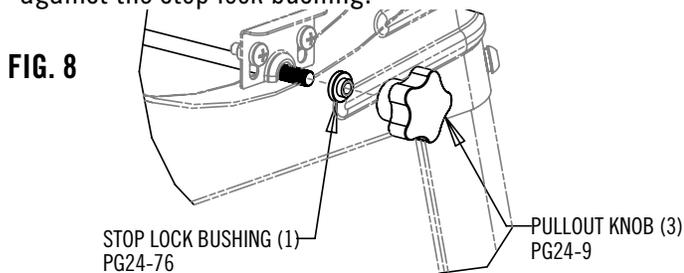

FIG. 8
3. Assemble the stop lock bushing on the burner pullout rod as shown in Fig.8. Make sure that the larger side of the bushing is towards the grill.